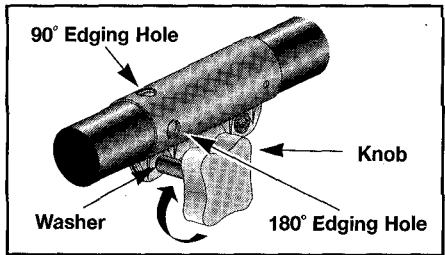

Fig. 15
3. **EDGING WITH THE TRIMMING HEAD ATTACHMENT** - Locate and lock the release button into the **90° Edging Hole** or the **180° Edging Hole** in the Click-Link (Fig. 15).
4. Tighten the knob securely **clockwise** before using the unit (Fig. 15).
For edging with the trimming head attachment on Model 725r, locate and lock the release button into the **90° edging hole** or **180° edging hole** in the Click-Link system (Fig. 15, Pg. 13).